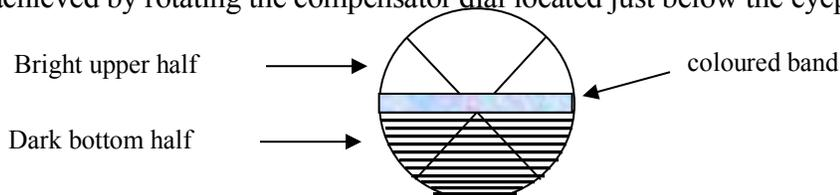

Figure 4.4. Chromatic aberration
6. If the borderline between the light and dark areas of the visible field appears as a coloured band (see Figure 4.4), **chromatic aberration** (colour dispersion) is said to have occurred, and you must **achromatize** the borderline. Achromatization can be achieved by rotating the compensator dial located just below the eyepiece.